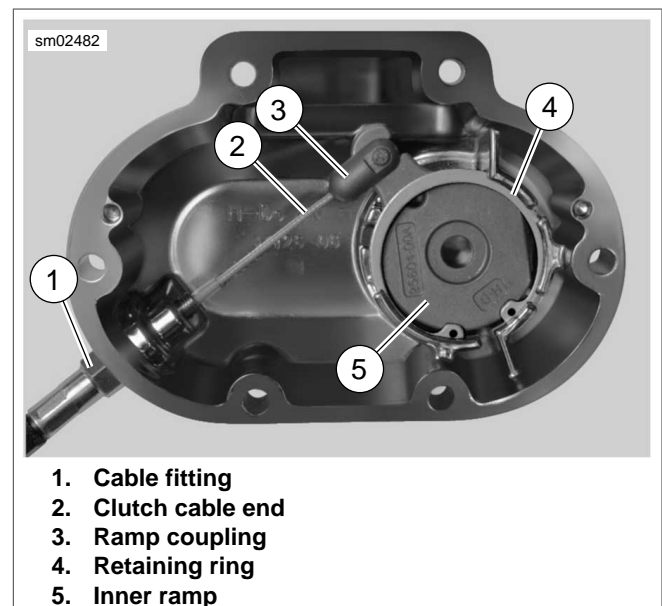

Figure 2-100. Clutch Cable Connection
4. See Figure 2-100. Note position of retaining ring opening. Retaining ring opening must be positioned in approximately the same location during assembly. Remove retaining ring (4).
5. Pull inner ramp and ramp coupling (3) out of side cover. Hold inner and outer ramps together to keep balls from falling free.
6. Rotate the inner ramp to a position which will allow the coupling to be disconnected from the inner ramp lever arm. Disconnect coupling from inner ramp. Disconnect cable end (2) from coupling.
7. Back out threaded cable fitting (1) from side cover.
1. See Figure 2-100. Apply a drop of Loctite Threadlocker 243 (blue) to clutch cable fitting and screw fitting (with o-ring) into clutch release cover. Do not tighten at this time.
2. Connect cable end to ramp coupling (3). Rotate ramps for best access and install coupling on inner ramp. Place ramp assembly in position in side cover.